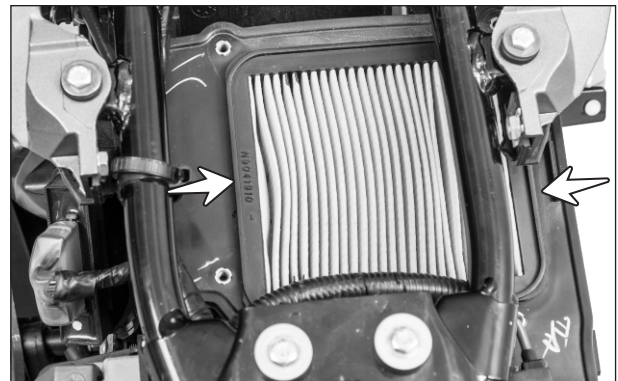

Fig. 2.45
- Remove and inspect the air cleaner element for any blockage / abnormality. Replace the element if any block or damage is found. (Fig. 2.45)